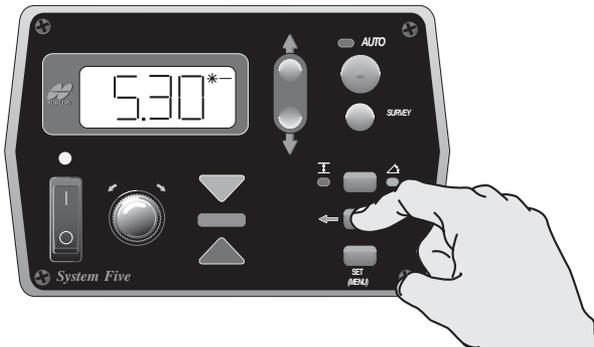

Figure 4-12. Cross Communication Started
- The left arrow illuminates, indicating cross communication has started (Figure 4-12).